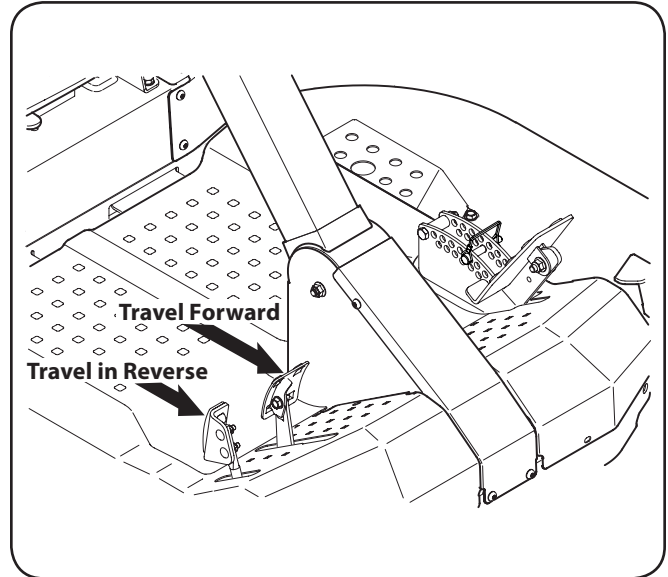

Figure 5-3
- To travel FORWARD, slowly press the drive pedal forward until the desired speed is achieved. See Figure 5-3.
- To travel in REVERSE, check that the area behind is clear then slowly reverse pedal with the ball of your foot (NOT your heel) until the desired speed is achieved. See Figure 5-3.